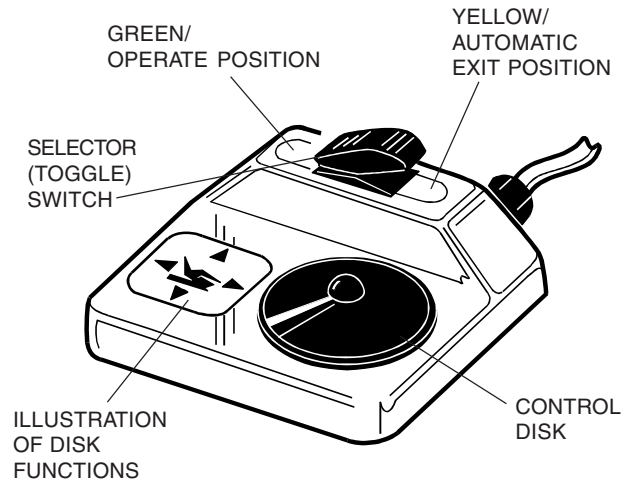

Figure 15
The foot control (See Figure 15), consisting of a selector (toggle) switch and a control disk, is operated as follows:
1. Actuate and hold the control disk to the desired quadrant (See Figure 15). For example, sliding the disk to the left will actuate the back-down position.